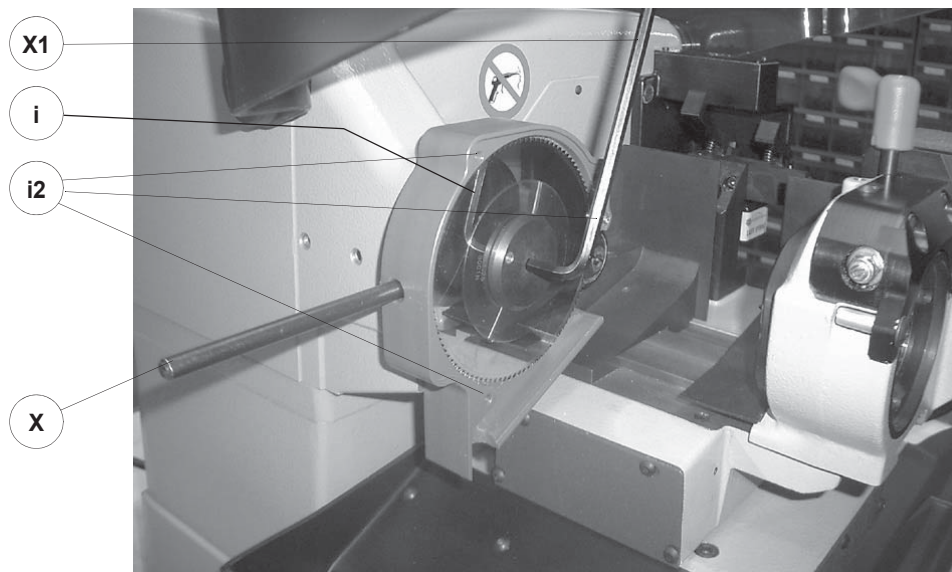

Fig. 131
- 3) slide the cutter release rod (X) into the hole located on the left side of the machines cutter shaft chassis (fig. 131).